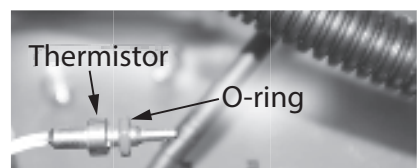

Figure 233 - Thermistor O-ring location
26 Locate the (3.8 x 1.9) O-ring provided in the kit. Place the O-ring over the thermistor and install it in the outlet assembly base. See Figure 233.
6 Locate the three (3) screws securing the X3®/Bypass cartridge as shown in Figure 233. Remove the **(A)** M4-12mm screw and the two **(B)** M4-25mm screws from cartridge. Place screws aside in a safe place for reinstallation.